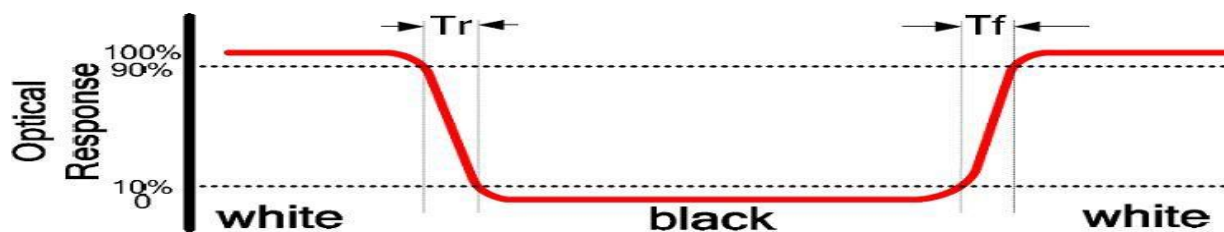

FIG2. Measuring method for Contrast ratio,surface luminance,Luminance uniformity,CIE(X,Y)chromaticity.
Note2.contrast Ratio(CR) is defined mathematically by the following formula ,For more information see FIG2.
Note5. Surface luminance is the LCD surface luminance with all white pixels,For more information see FIG2.